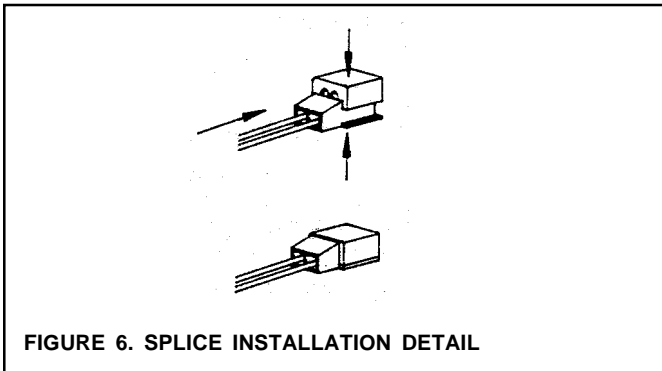

FIGURE 6. SPLICE INSTALLATION DETAIL
6. Crimp the splice completely and carefully using a parallel jaw crimper such as P/N 59983-001 only. Use of Pliers or other devices will distort the connection because of their uneven action resulting in a poor connection. Repeat the process for the second wire from each cable. Polarity is NOT important in ROM installations. Refer to Figure 6.